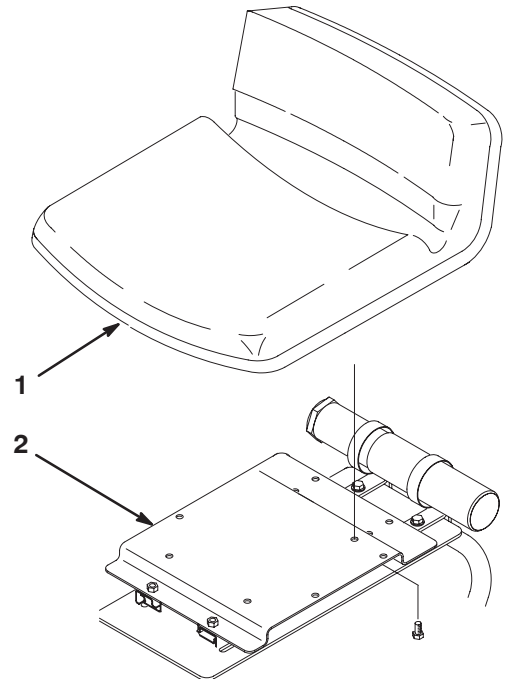

**Figure 2**
3. Secure the steering wheel in place with the roll pin (Fig. 2).